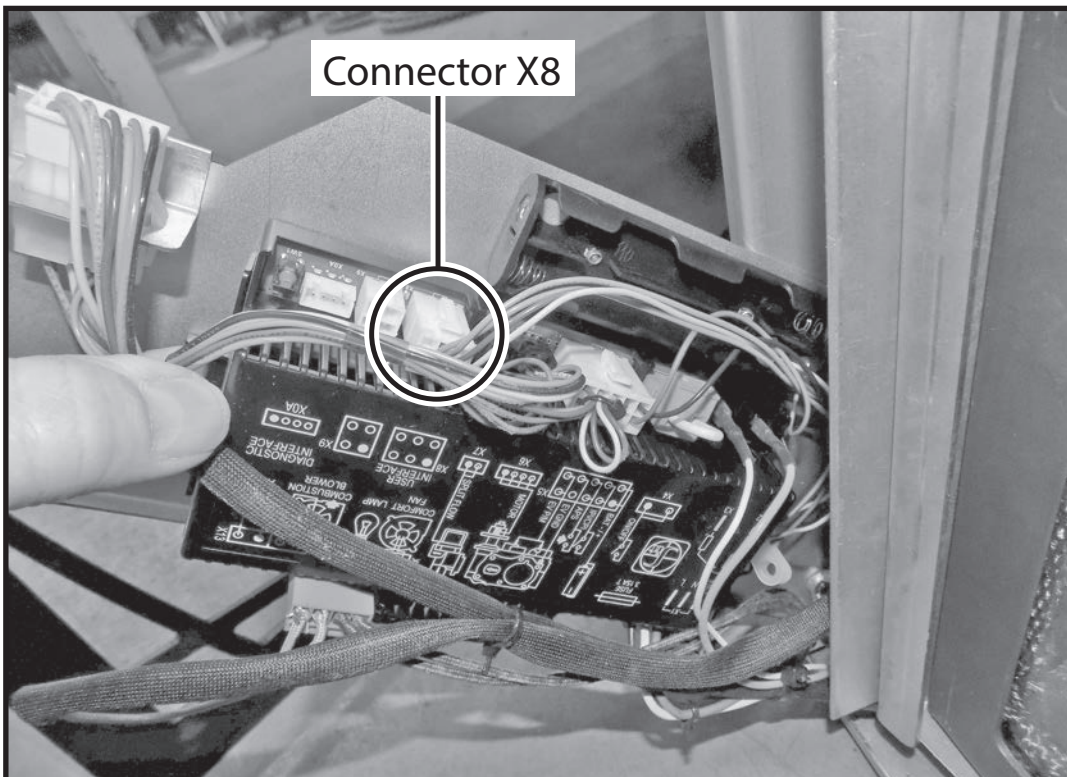

Figure 85: SIT manual switch connection at SIT module.
1. Check that the ON/OFF Switch cable is plugged into the SIT module (jack X8) as shown in Figure 85.
Note regarding batteries for the SIT module (Figure 85): Installation of batteries for the SIT module are not necessary if the fireplace is connected to AC power. Batteries are only used if the fireplace is not connected to AC power and as a backup against power failure.